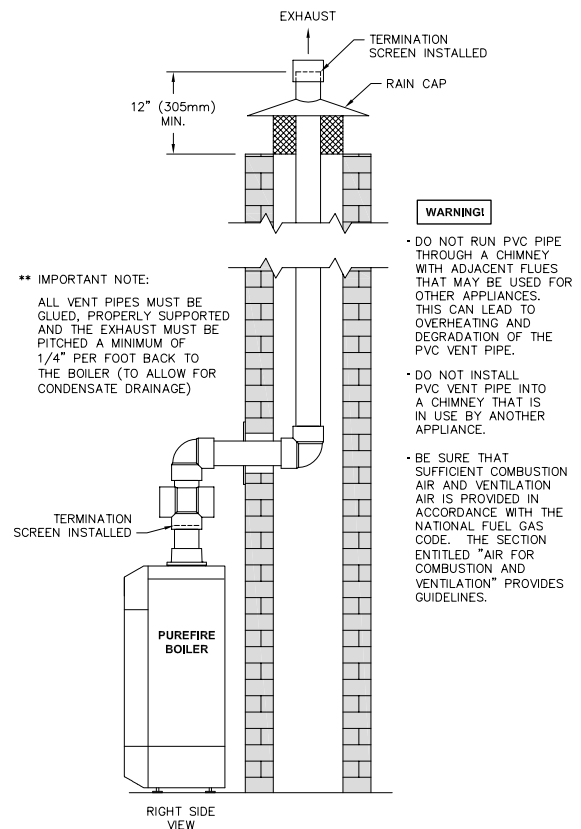

Figure 3.12: Venting with a Chimney Using Inside Air
- g. Figure 3.12 shows an option for routing the exhaust through an unused chimney with the combustion air supplied from inside the building. Be sure to note the requirements for combustion air as listed under Section 1.D. "Combustion and Ventilation Air". These requirements are in accordance with the National Fuel Gas Code.